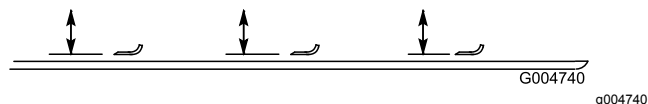

Figure 109
- Rotate the blade until the ends face forward and backward (Figure 109). Measure from the inside of the cutting unit to the cutting edge at the front of the blade. Remember this dimension.